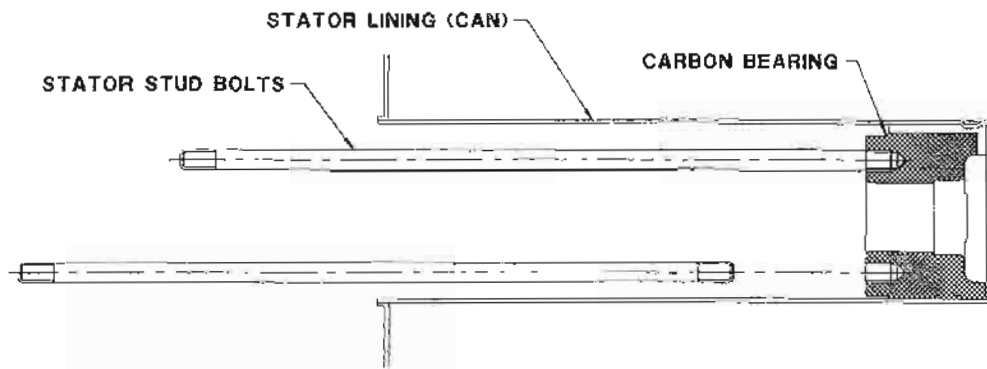

Figure 11
2. Bend down the tab washer (931.1), unscrew impeller screw (906) and take off the first impeller.
3. Remove the impeller key from the shaft, remove the stage casing (108) and take out the second impeller.
5. Loosen the 4 hexagon nuts (920.2) and completely remove the motor from the pump casing (101). Take off front bearing assembly (381).
6. Remove rear carbon bearing (545.2) with the help of the stator stud bolts (900.4), see Figure 11 below. To prevent bearing and stator lining damage, pull bearing gently, pushing bearing back if necessary to wipe dirt particles from stator lining. Lightly oil stator lining to facilitate removal of the carbon bearing.
9. Visually check stator lining, "CAN" (816) for scratches, gouges, and dents. If stator lining is damaged, return to the factory or qualified motor repair shop for replacement.
1. Loosen 8 socket (10 mm) screws (914) and withdraw motor from pump. Check stator resistance per Stator Winding Inspection section.
2. To remove rotor assembly, tap on inducer to push bearing insert (381), rotor, and impeller from pump housing.
3. Bend up the tab washer (931.1) and remove the inducer (235) and the retaining plate (552.1). Withdraw impeller (230) from the motor shaft (819). Take off front bearing assembly (381).
4. To remove auxiliary impeller and rear bearing and sleeve, loosen countersunk hexagon (8 mm) screw (917) and withdraw bearing sleeve (529.2) from the shaft.
5. Removal of the carbon bearing (545.2) on the motor side is by means of the stator stud bolts (900.3), see Figure 11 below. To prevent bearing and stator lining damage, pull bearing gently, pushing bearing back if necessary to wipe dirt particles from stator lining. Lightly oil stator lining to facilitate removal of the carbon bearing.
To install rear bearing, first clean and lightly oil stator lining. Install bearing using the stator stud bolts (CAM 900.4, CNF 900.3) per Figure 11. Gently push bearing in to the can, lining up notch in bearing with notch in can. Careful not to bend the stud bolts or twist the bearing. The remaining steps in re-assembling the pump should be performed in the reverse order of disassembly. When re-assembling pump it is advisable to use new gaskets. The impeller screw must be secured with a tab washer (931.1) in good condition. Torque bolts (914, 920.3) on CNF and nuts (920.1/2) on CAM to 40 ft-lbs. After assembly is complete, rotate shaft by hand through pump inlet opening to make sure rotor spins freely and re-check axial shaft play. Pressure test pump for leaks before putting back into service.